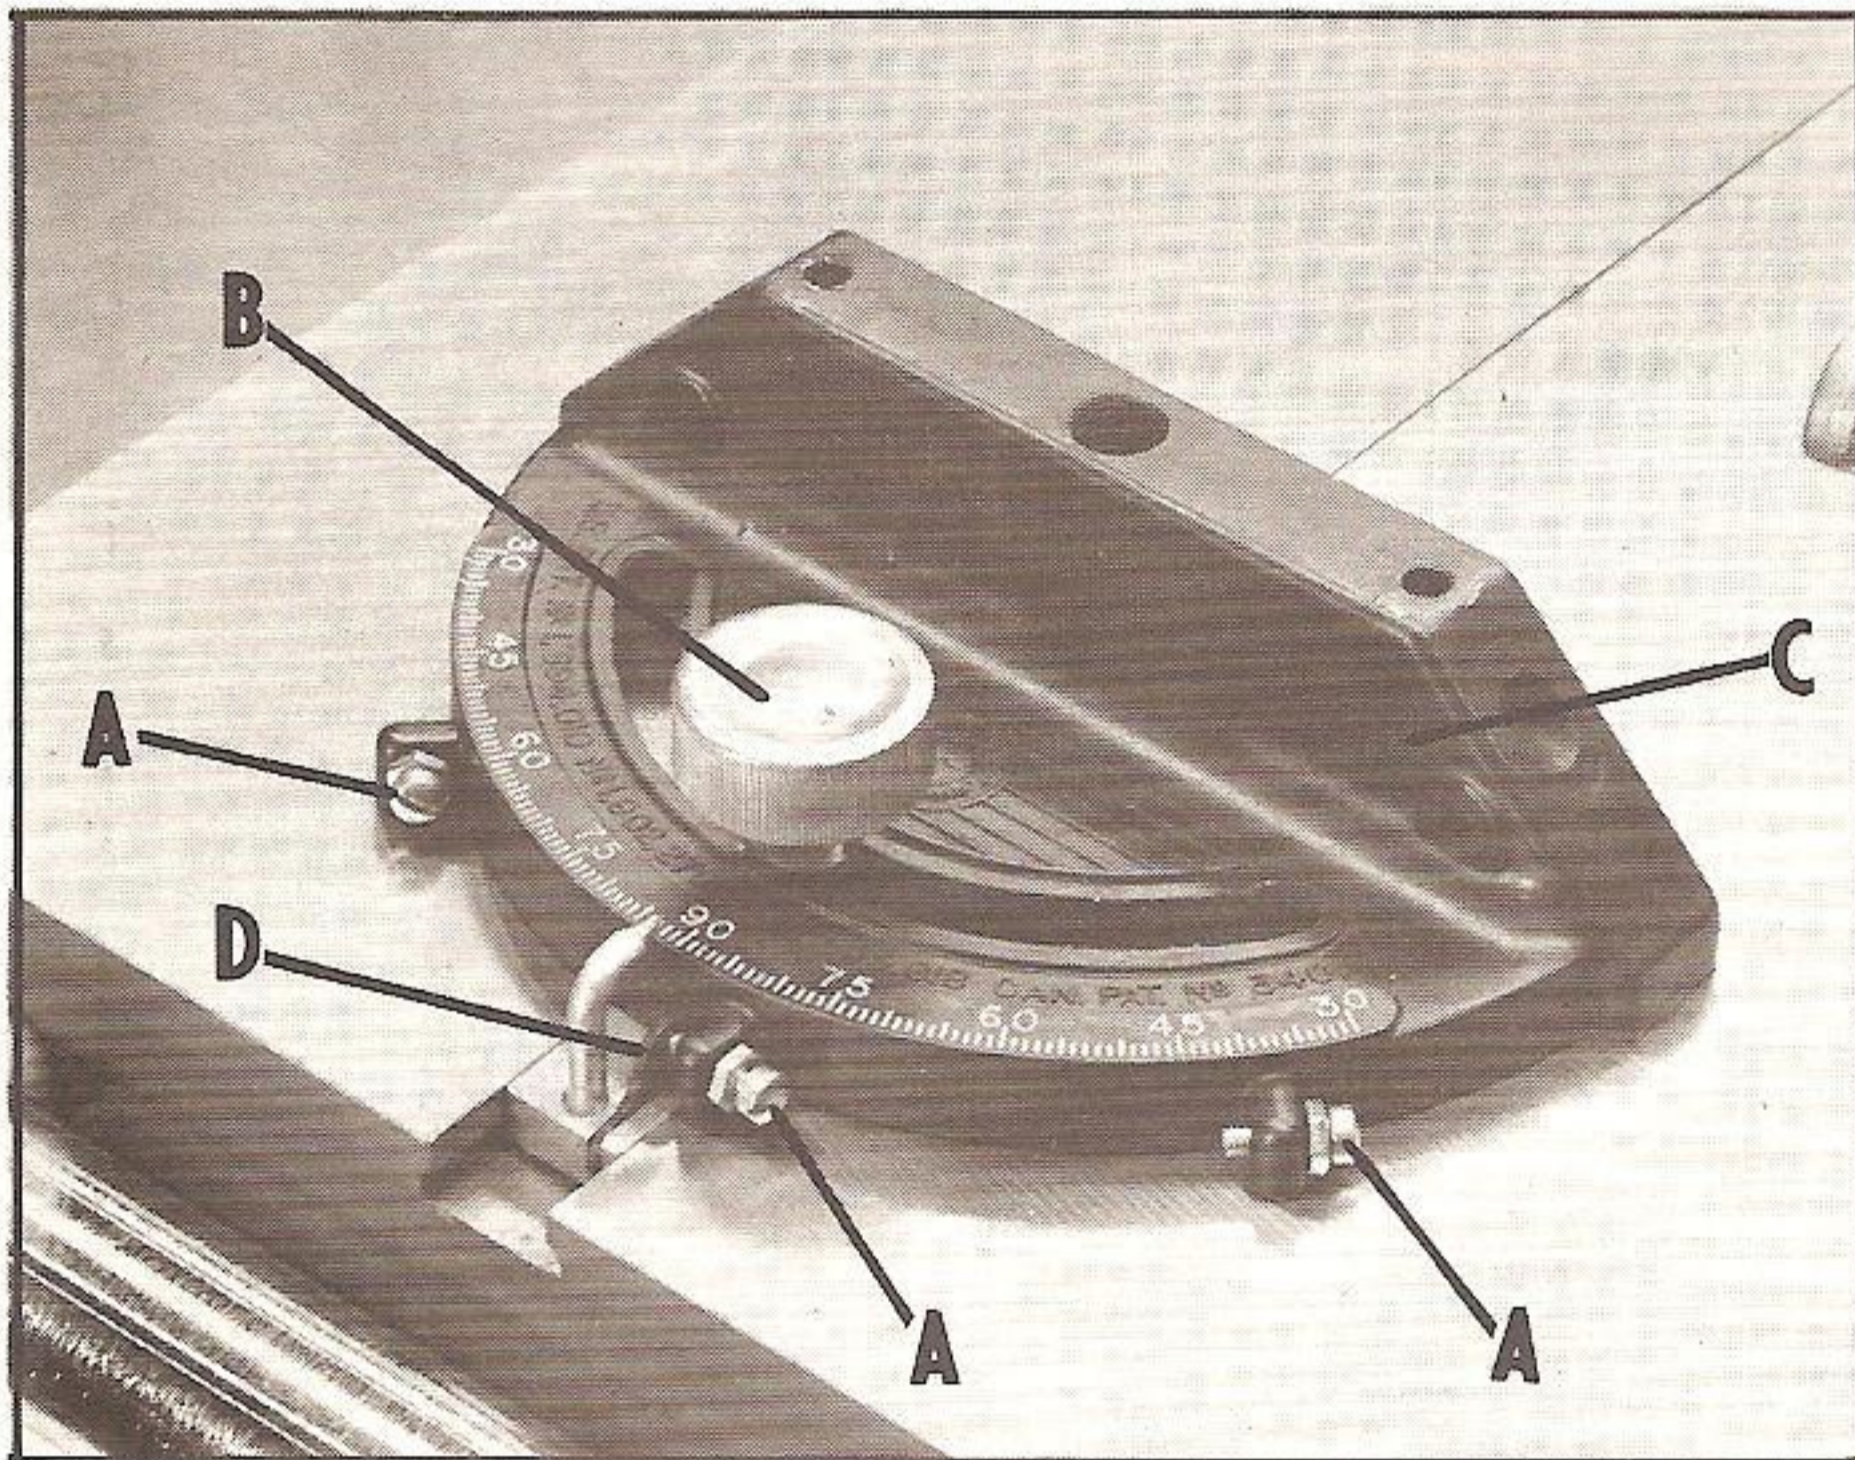

Fig. 26
Your Rockwell Miter Gage is accurately constructed and equipped with individually adjustable index stops at 90 degrees and 45 degrees right and left. Adjustment to the index stop can be made by tightening or loosening the three adjusting screws (A) Fig. 26.
To operate the miter gage, simply loosen the lock knob (B) Fig. 26, and move the body of the miter gage (C) to the desired angle. The miter gage body will stop at 0 degrees and 45 degrees both right and left. To rotate the miter gage body past these points, the stop link (D) Fig. 26, must be flipped out of the way.